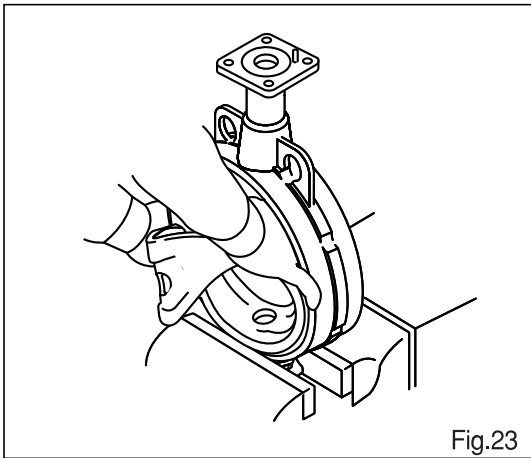

Fig.23
- 2. Replace parts** : Replacement of O-ring⑭, gasket⑫ etc. used once is recommended even though no damage is found on these components.
- 4. Insert the seat ring** : Fix the valve body using a vise and insert the seat ring③ into the valve body from the bottom while confirming the position of the stem hole. Next, apply force to the upper part of the seat ring③ to fit the ring into the body with the ring curved concavely. (Fig.23)